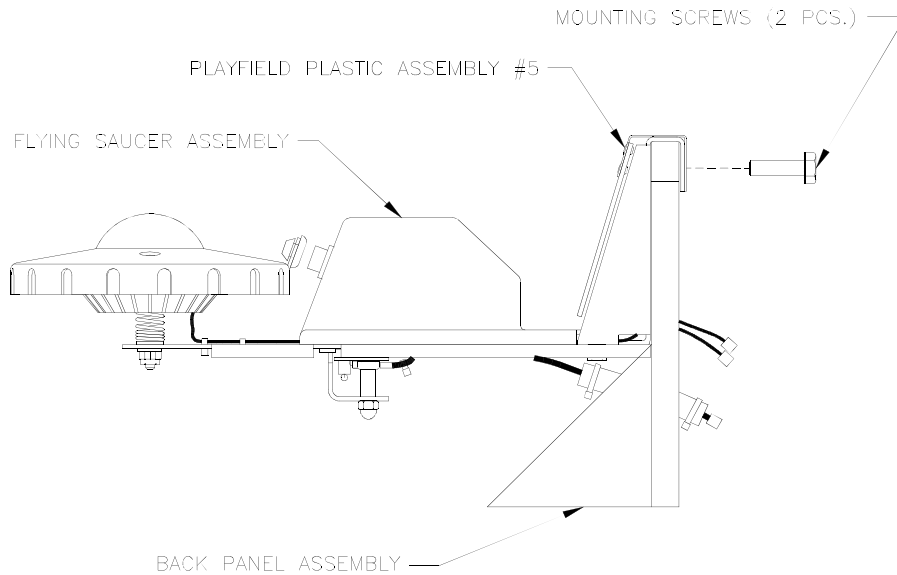

FIGURE 1
1. Remove the two mounting screws (p/n FSM-083-HFH100C) that attach the Flying Saucer Assembly (p/n AFM-SUB-A20608) and Playfield Plastic Assembly #5 (AFM-A-207715) to the Back Panel Assembly (AFM-SUB-A20578). (See Fig.1)